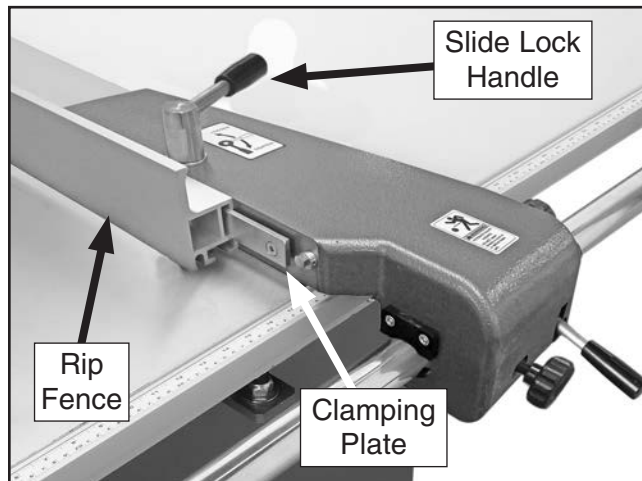

Figure 35. Rip fence attached to rip fence base.
22. Slide rip fence onto clamping plate, as shown in **Figure 35**, and lock it with slide lock handle.